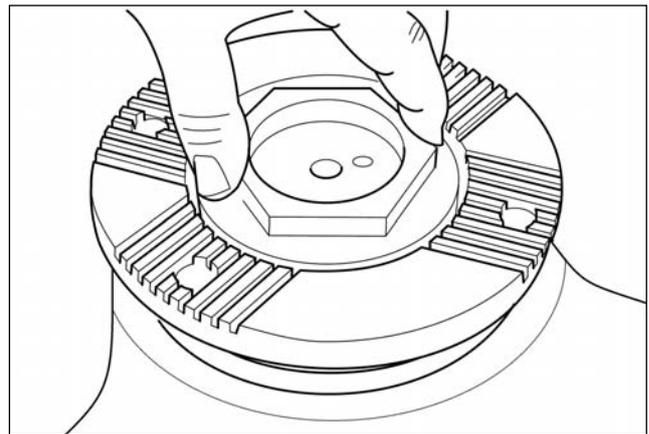

Fig. 4.28
8. Refit flange and pinion nut. (Fig. 4.28)